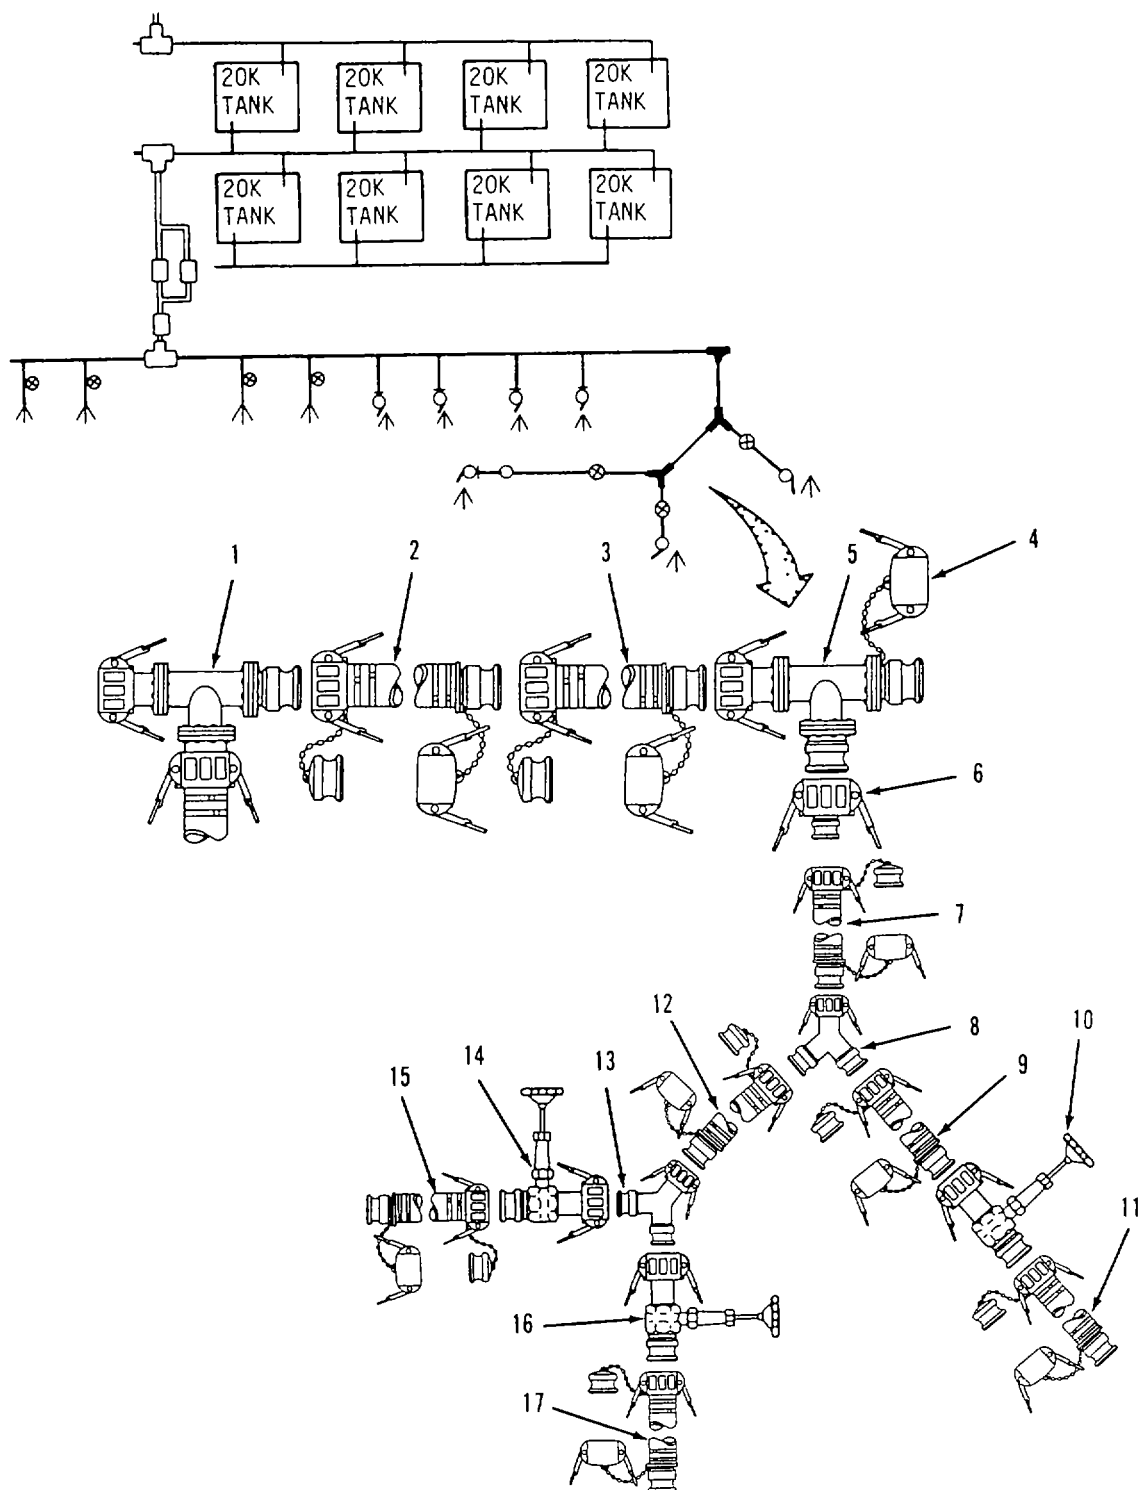

Figure 2-21. Bag Filler Connection Kit Assembly.
- n. Assemble Bag Filler Connection Kit Refer to figure 2-21